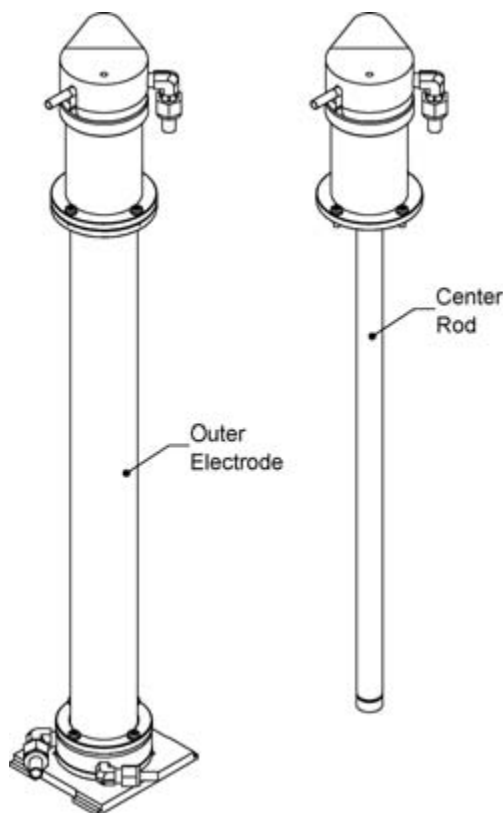

Figure 6-2
To clean the inner rod and inside of the outer tube, follow these steps and refer to Figure 6-2:
5. Loosen the four screws (see Figure 6-2) on the top of the flange about 10 centimeters below the top of the DMA assembly, leaving them one turn from complete removal.